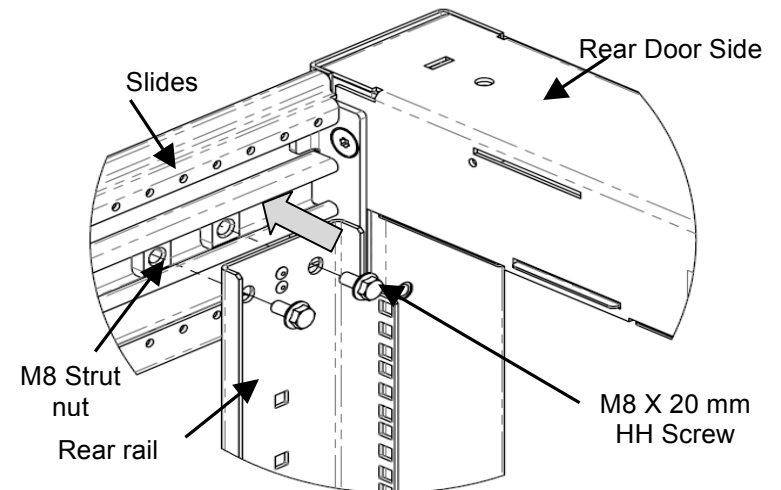

Fig. 9
4. Repeat above steps for other Equipment rail. The slides are marked to help vertically align the rails (Fig. 9).